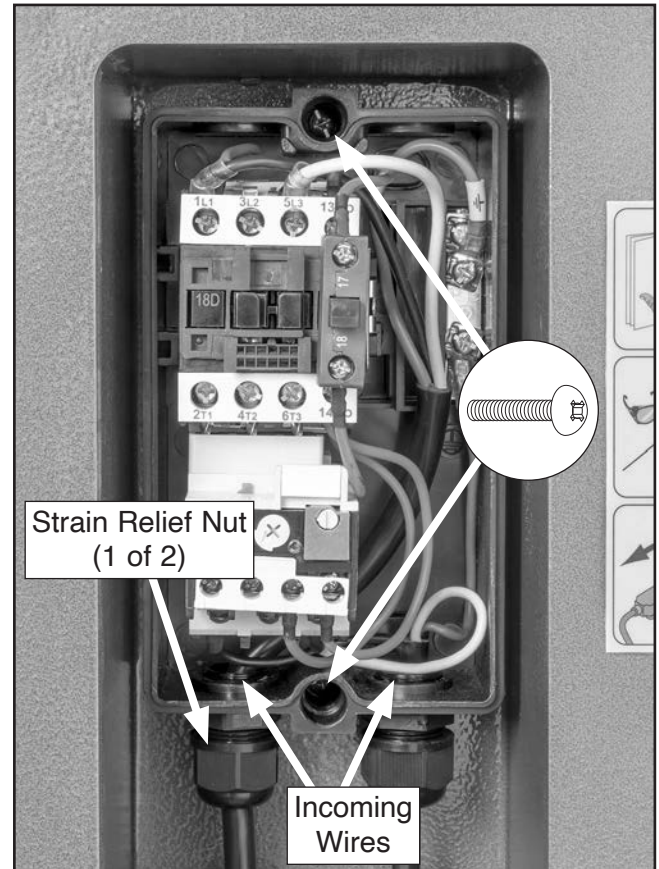

Figure 6. 120V magnetic switch assembly.
4. Loosen (2) strain relief nuts (see **Figure 6**).
5. Disconnect incoming power, motor, and ground wires, then remove (2) Phillips head screws to separate switch housing from machine (see **Figure 6**).